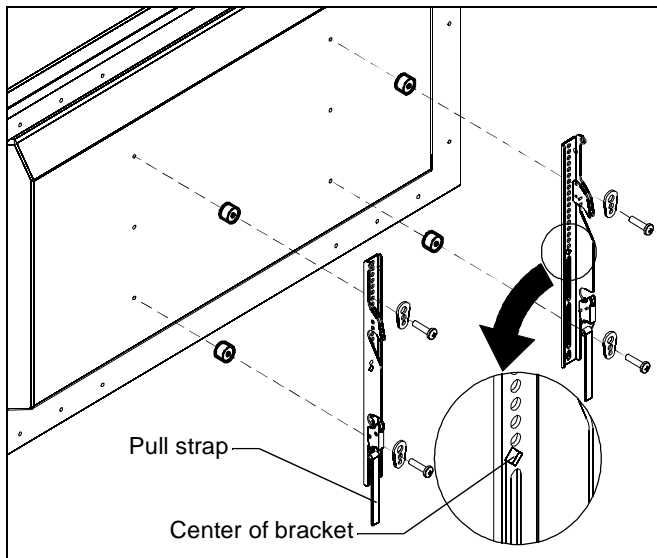

Figure 5
- Select correct screws, spacers (if necessary) and washers from the hardware bag and attach brackets to back of screen. (See Figure 5)